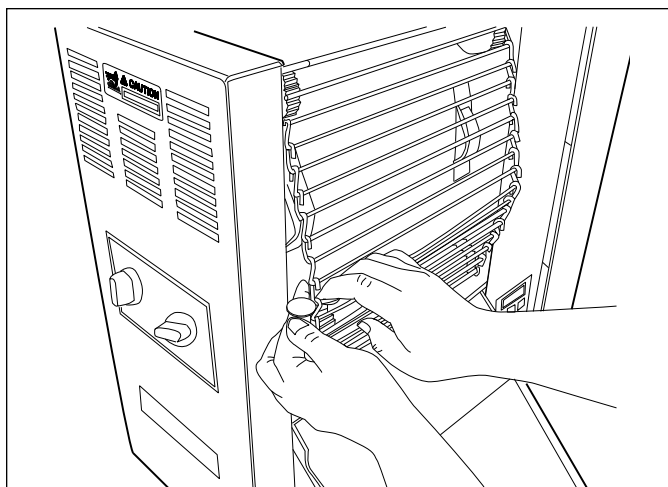

Figure 8. Measuring Conveyor Belt Chains
4. Disconnect the Conveyor Belt chain by squeezing any two links together and unhooking both ends of one link (Figure 8). A needle-nose pliers may be required. Remove the Conveyor Belt chain.
2. Place the replacement Conveyor Belt Chain on the top sprockets. Check for correct positioning (Figure 8).
|   | Conveyor Belts chains installed incorrectly  | Install conveyor belt to match diagram in Fig. 8 (page 11). Be sure that ends of the hooks are facing down.   |